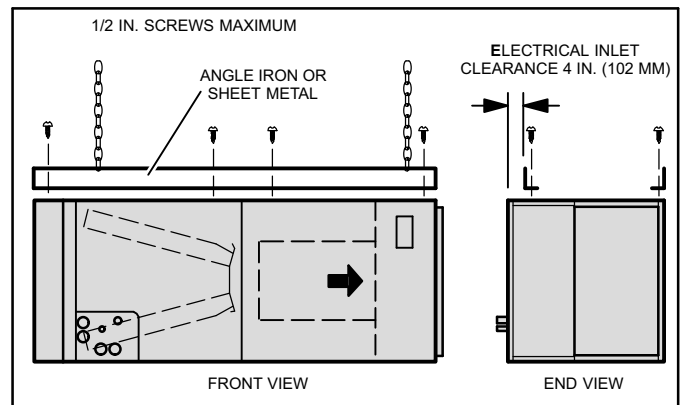

Figure 3. Suspending Horizontal Unit
2. If the unit is suspended, the entire length of the cabinet must be supported. If you use a chain or strap, use a piece of angle iron or sheet metal attached to the unit (either above or below) to support the length of the cabinet. Use securing screws no longer than 1/2" (12.7mm) to avoid damaging the coil or filter as illustrated in figure 3. Use sheet metal screws to connect the return and supply air plenums as required.
14. If suspending the unit, it must be supported along the entire length of the cabinet. If using chain or strap, use a piece of angle iron or sheet metal attached to the unit (either above or below) so that the full length of the cabinet is supported. Use securing screws no longer than 1/2" (12.7mm) to avoid damage to coil or filter as illustrated in figure 3. Connect return and supply air plenums as required using sheet metal screws.